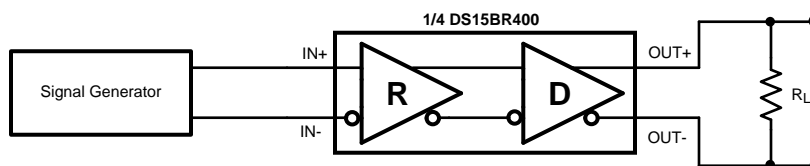
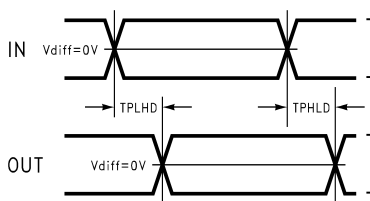
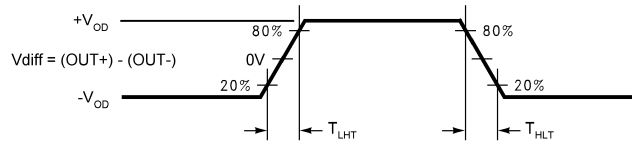

Figure 6. Differential Driver AC Test Circuit
Figure 7. Propagation Delay Timing Diagram
Figure 8. LVDS Output Transition Times
| t LHT                              | Differential Low to High Transition Time (4)     | Use an alternating 1 and 0 pattern at 200 Mbps, measure between 20% and 80% of V OD .<a href="#">Figure 6</a> , <a href="#">Figure 8</a>        |      | 170        | 250   | ps    |
| t PLHD                             | Differential Low to High Propagation Delay                  | Use an alternating 1 and 0 pattern at 200 Mbps, measure at 50% V OD between input to output.<a href="#">Figure 6</a> , <a href="#">Figure 7</a> |      | 1.0        | 2.0   | ns    |